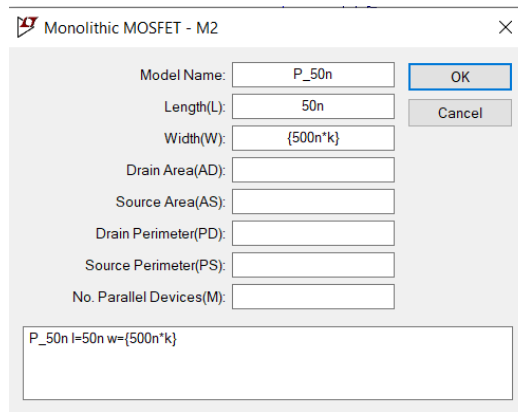

Figure 3.1 Changes for the PMOS width
1. Using the lab01_inverter_dc schematic, change the PMOS width to $\{500n*k\}$. See Figure 3.1 for clarity.